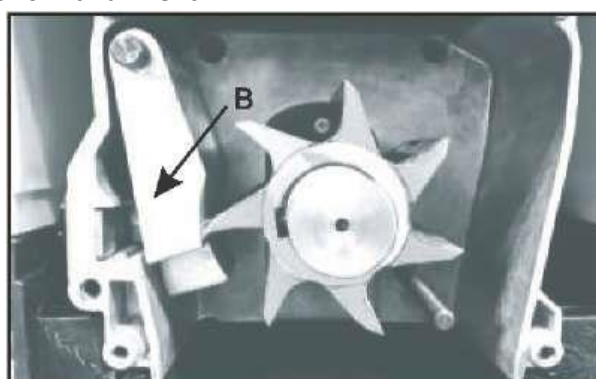

Fig. 6B)
2. Remove the counter plate (B) and insert a new one. (Fig. 6B)